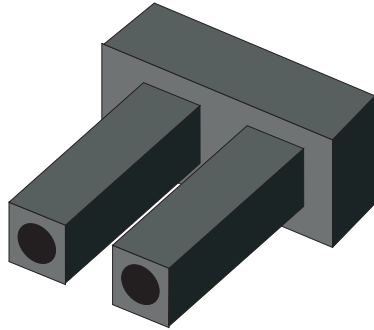

Figure 4: Fiber-Optic protective plug
- **Fiber-optic protective plug**—For safety and port transceiver protection, fiber-optic protective plugs as shown in Figure 4 on page 30 must be inserted in all switch ports without fiber-optic cables attached. The switch is shipped with protective plugs installed in all ports.